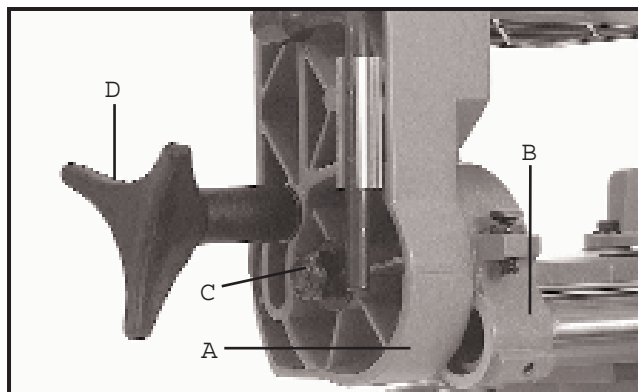

Fig. 27
After a long period of time it may become necessary to adjust the sliding fit between the trunnion (A) Fig. 27, and the bevel bracket (B) by tightening adjusting nut (C). NOTE: This adjustment must be made with the bevel lock handle (D) loose. Correct adjustment is when a good snug sliding fit is obtained between these two parts. This adjustment should not be too tight that it restricts the sliding movement or too loose that it affects the accuracy of the saw cut.